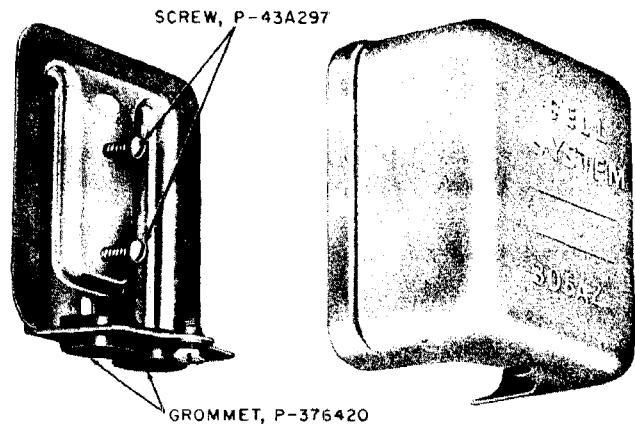

Fig. 11—305A2 Protector Mounting
3.07 The 305A2 Protector Mounting consists of a metal base and a removable metal cover. It is provided with two screws for fastening the protector to the metal base (Fig. 11).